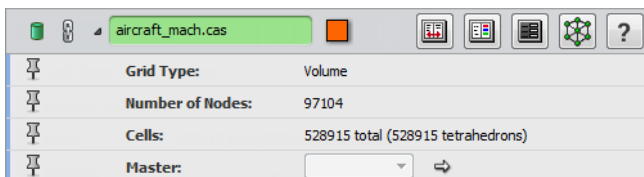

Figure 11.67: Properties area of the model
- Select the model in the *Project View*. Details about it appear in the Properties area (see Figure 11.67).